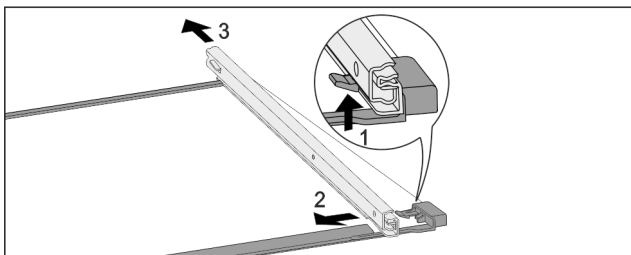

Fig. 129 Glass shelf with rails
- ▶ Push up front click-in hooks. Fig. 129 (1)
- ▶ Slide pull-out rails to the side Fig. 129 (2) and backwards Fig. 129 (3).